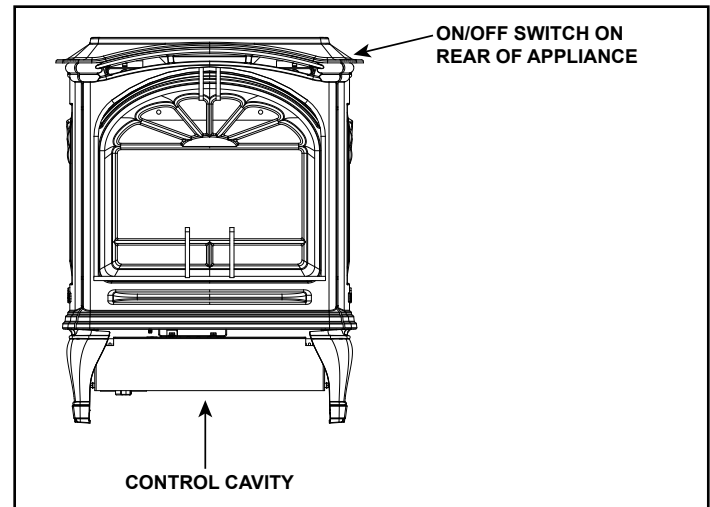

Figure 3.3 ON/OFF Switch/Control Cavity Location
This model has a variable burn rate which is controlled by the HI/LO switch on the control module. Therefore the flame height is adjustable. The HI/LO switch is shown in Figure 3.3. It is located in the control cavity of the appliance.
1. Access the control cavity of the appliance. See Figure 3.3 for location.
- Toggle the switch as you would under normal circumstances. See figure 3.3